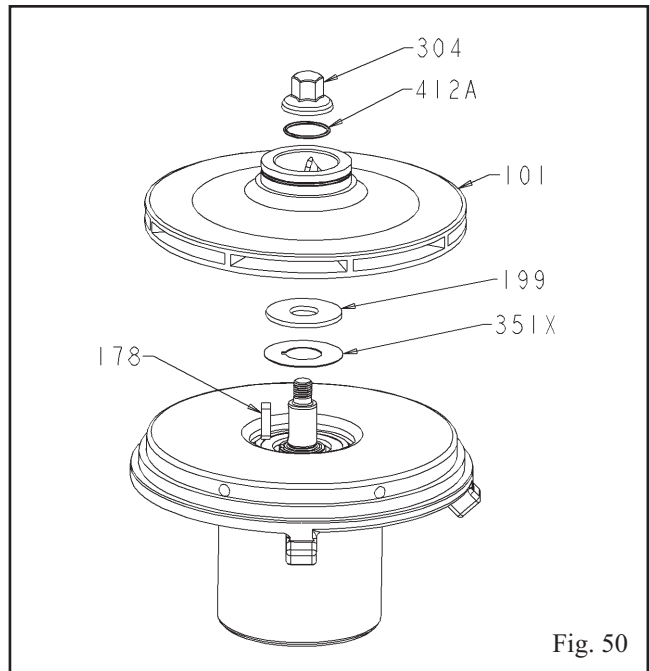

Fig. 50
- Mount the second intermediate ring gasket (351X) and distance washer (199) onto the drive shaft as shown (Fig. 50).
- Insert impeller key (178) into the key-slot on the shaft (Fig. 50).
- Mount the impeller (101) onto the shaft (Fig. 50).
- Insert the impeller nut o-ring (412A) into the groove on the backside of the impeller nut (304) (Fig. 50).